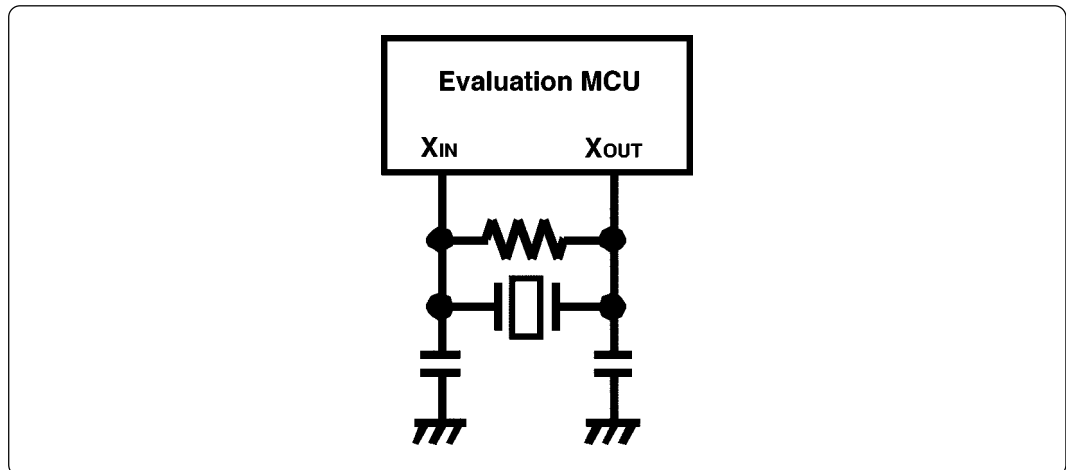

Figure 3.5 Circuit in which oscillation does not occur (same for X_{CIN}-X_{COUT})
- Make note of the fact that in the oscillator circuit shown in Figure 3.5 where a resonator is connected between the X_{IN} and X_{OUT} pins, oscillation does not occur because a flexible cable, buffer IC and other devices are used between the evaluation MCU and the target system. It is same for sub-clock oscillator circuits (X_{CIN} and X_{COUT}).
(2) Changing the Internal Oscillator Circuit of the Emulation Pod